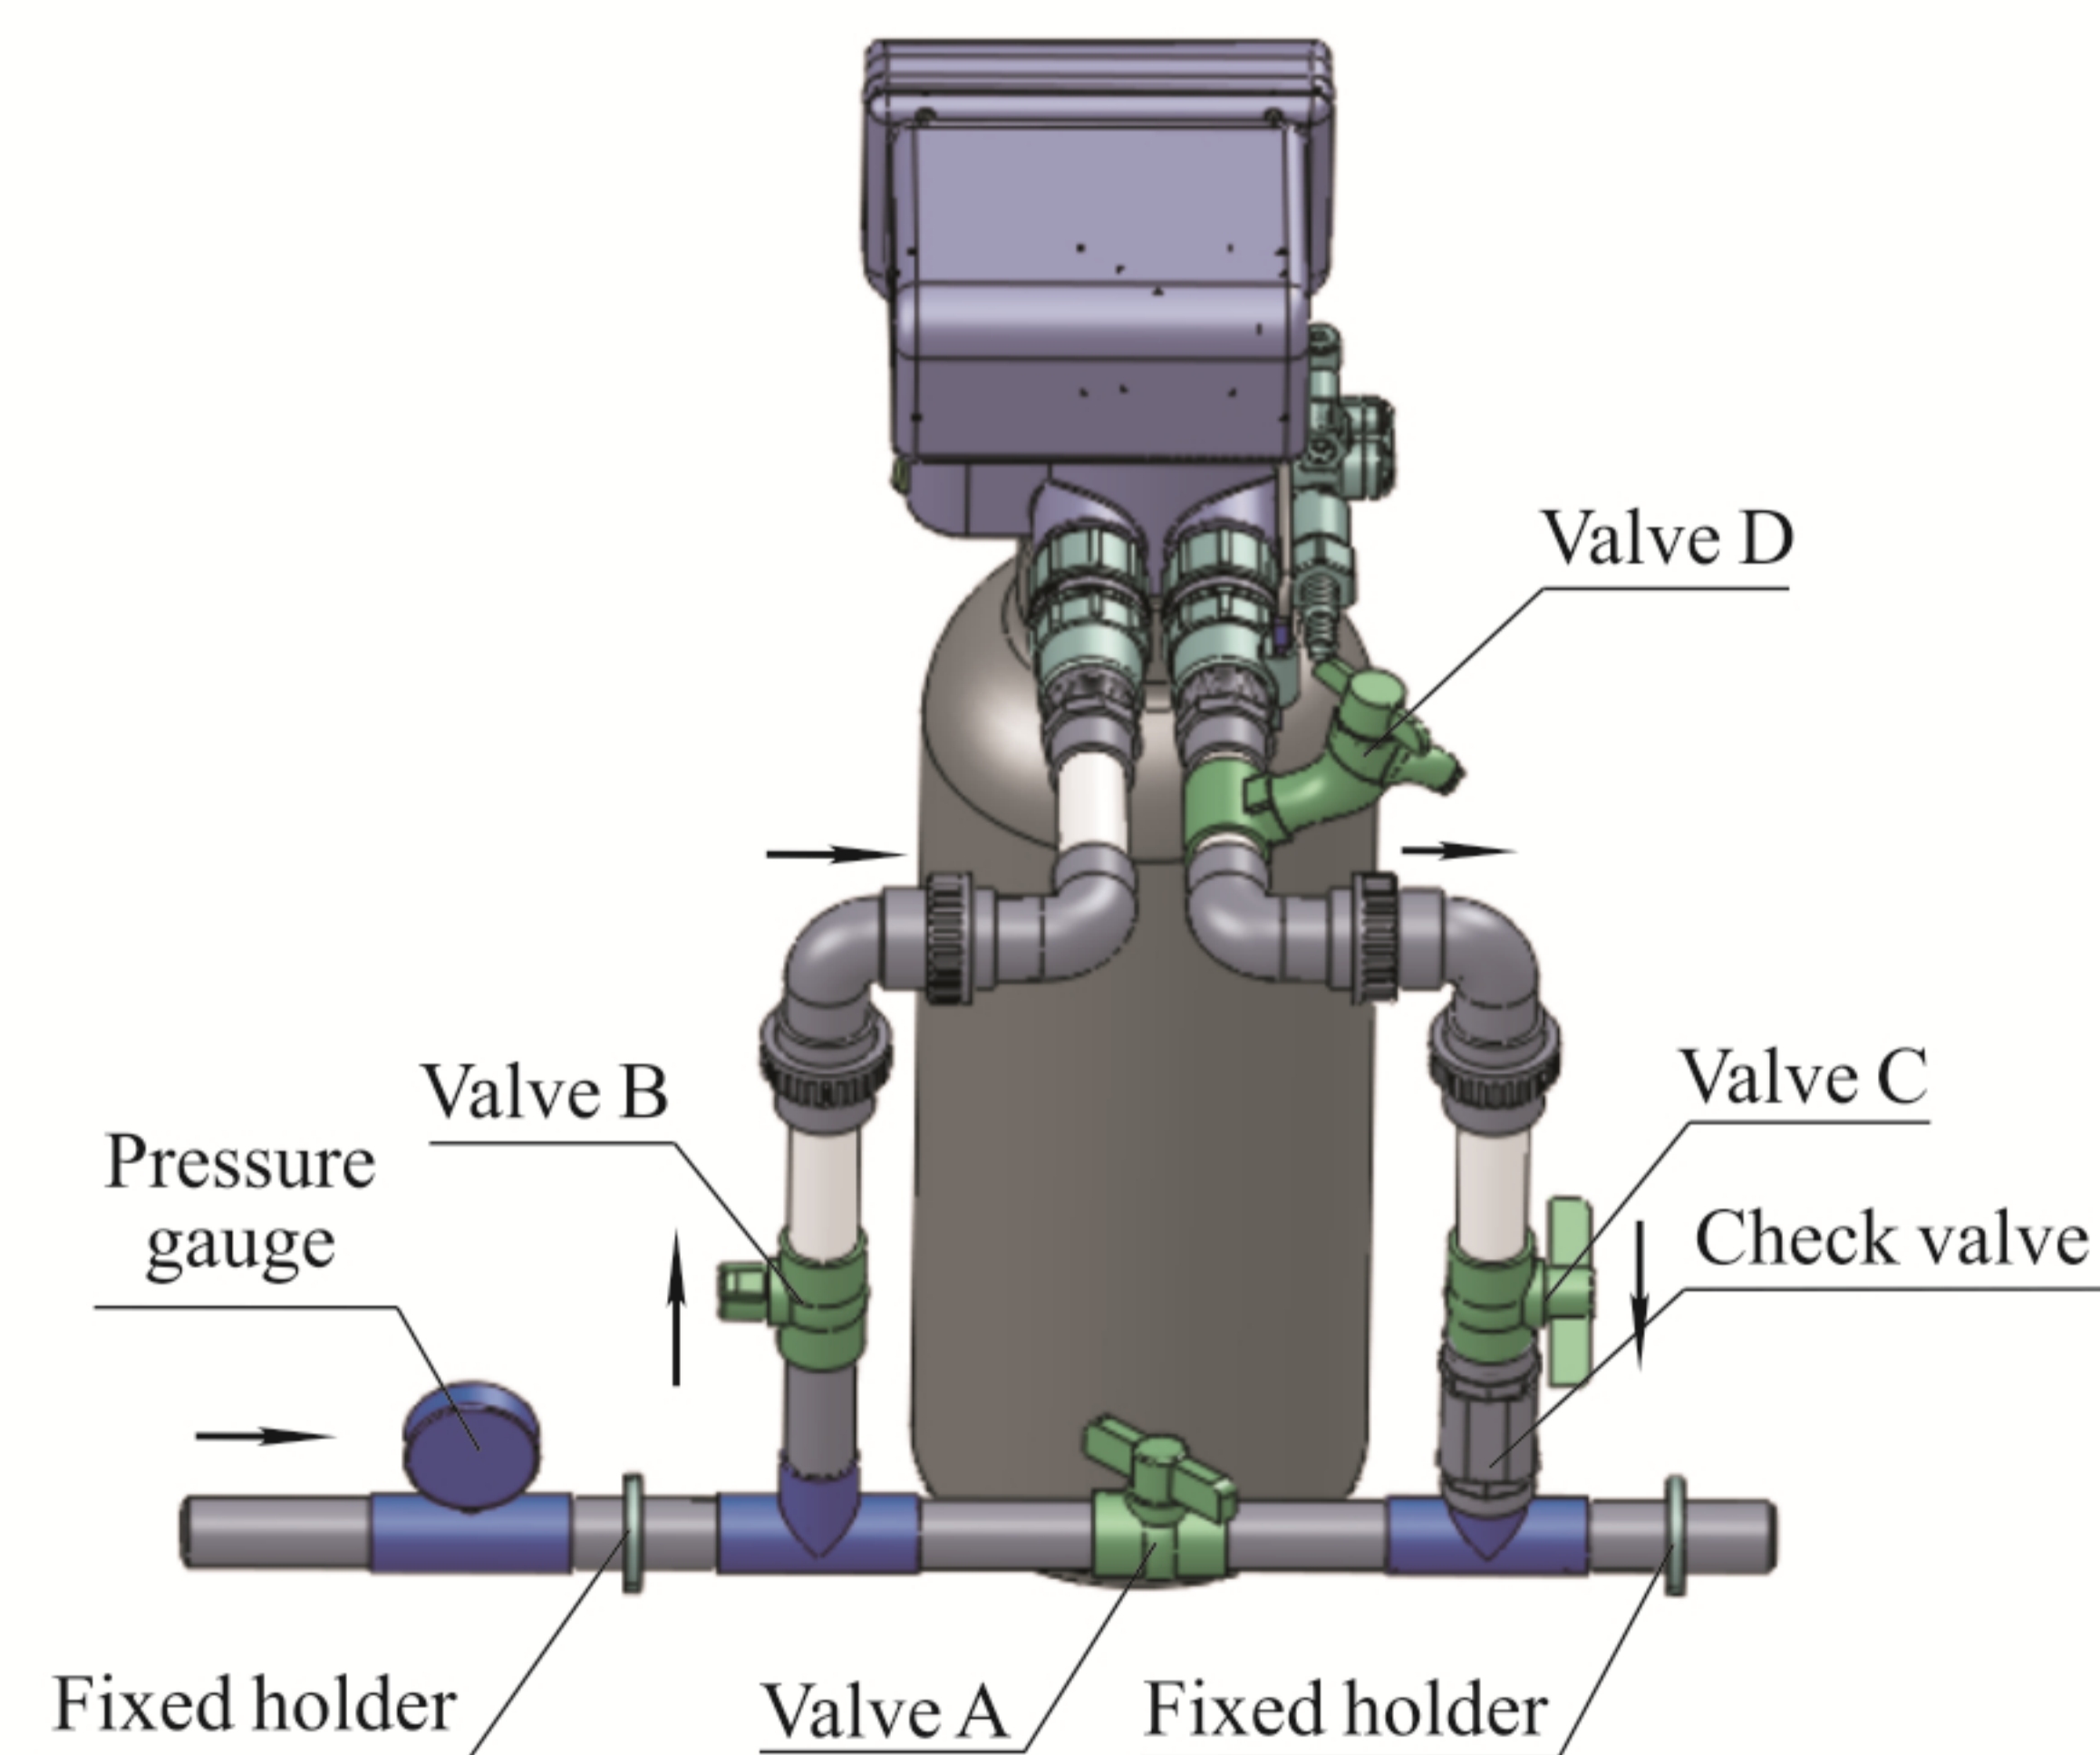

Figure 5
③ Install inlet and outlet pipeline
- a. As Figure 5 shows, install a pressure gauge in water inlet.